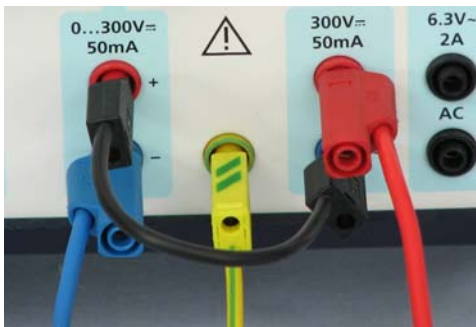
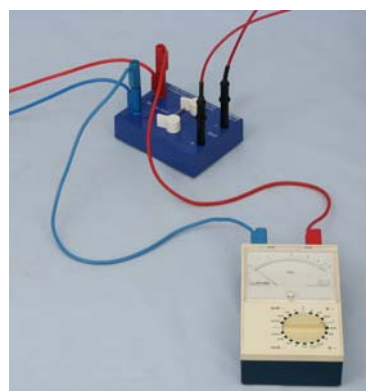

Fig. 4
Fig. 6
- Now, connect the commutator switch to the power supply (Fig. 4 and 5) and to the multi-range meter (Fig. 6)